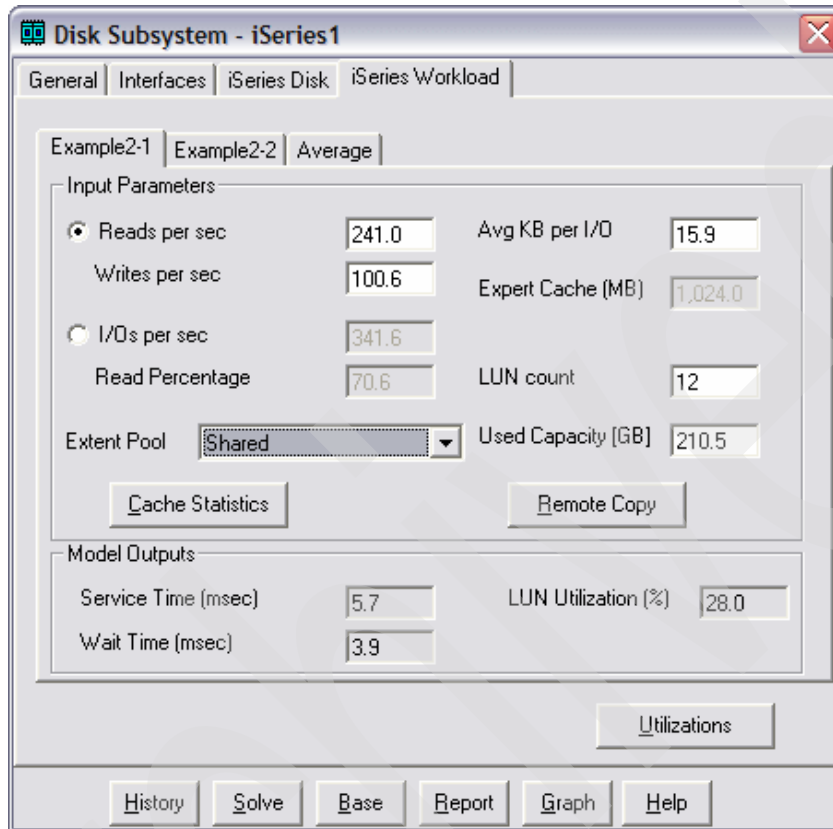

Figure 4-63 Inserting the values for first workload
- i. In the Disk Subsystem - iSeries1 window, select the iSeries Workload tab (Figure 4-63). Then, select the tab with the name of the first workload, which in this case is Example2-1. Complete the following information:
- In the Used Capacity (GB) field, enter the usable capacity for i5/OS.